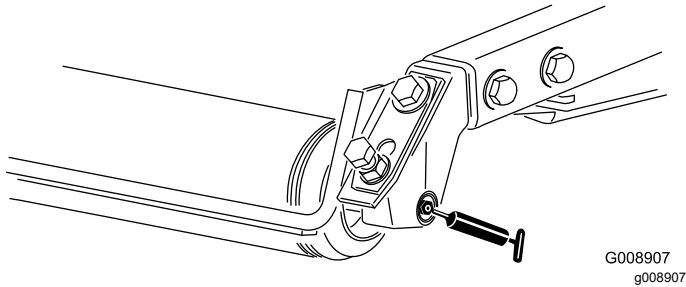

Figure 72
- Rear-roller bearings (2 per cutting unit)—Figure 72